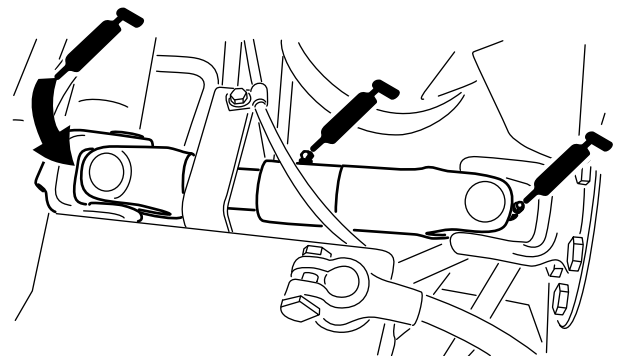

Figure 50
- Pump drive shaft U-joint (3) (Figure 50)